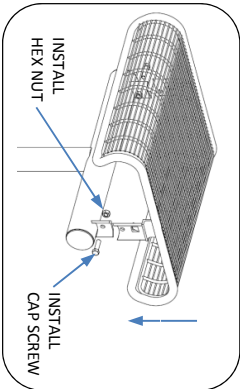
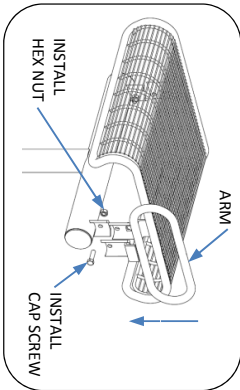

Fig. 11 – Seat install – no arm
Fig. 12 – Seat install – with arm
2. Install arms, if specified, as shown in Fig. 12. Backed seats have left and right style arms, as determined by sitting in the seat. Straight backless seats have a universal style arm. Angled backless seats have a left and right style arm.
3. Using hardware provided, insert cap screw through adapters and install the hex nut on the inside of the bracket. See Fig. 11 or Fig. 12. Repeat for other side.